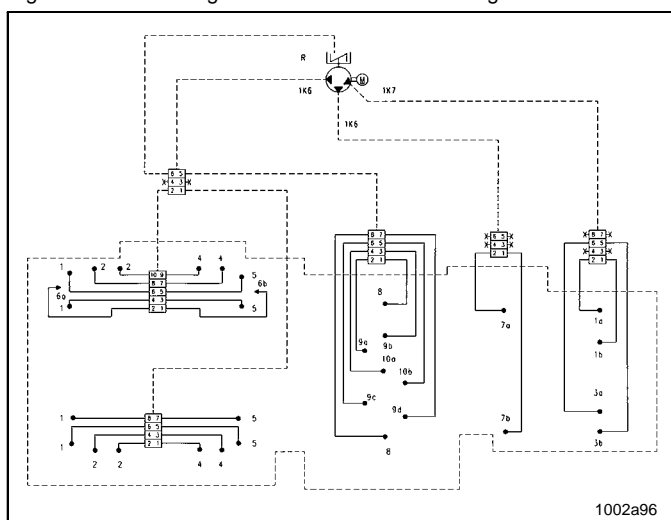
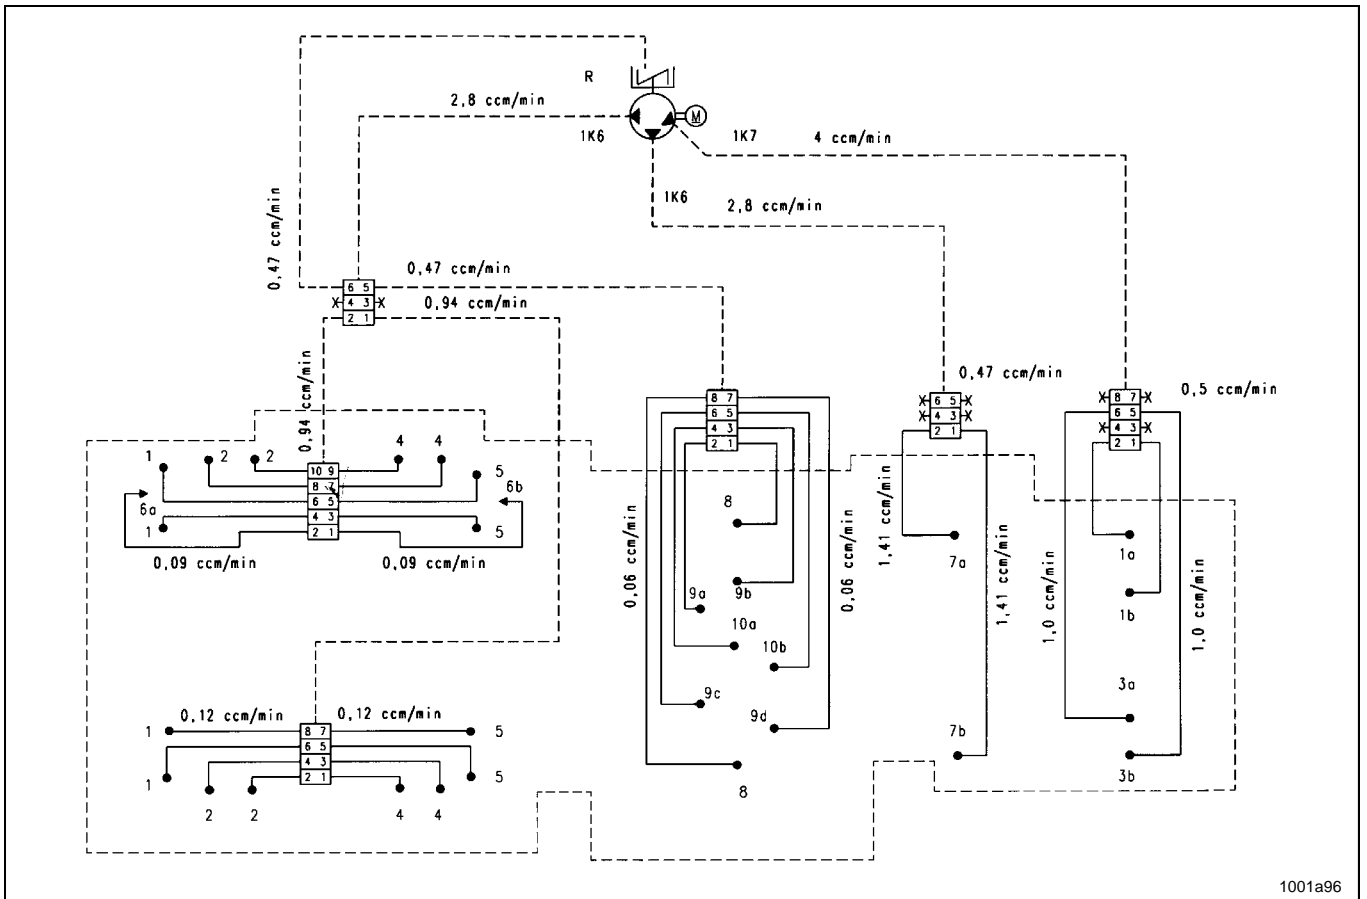

Fig. 38 Divided lubricant quantity
Fig. 39 Dividing the lubricant quantity - Calculation example
- Divide the lubricant quantities as shown in the example Fig. 38. Also see the calculation example in Fig. 39.